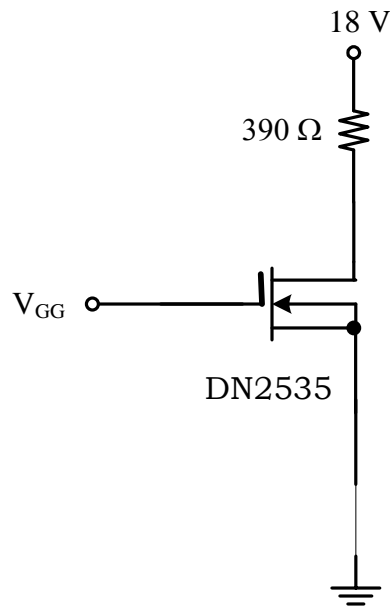

Figure 4
1. Make the connections as shown in Figure 4. Connect the GATE (G) to the negative voltage (V_{GG}) . This negative voltage can be obtained from the Trainer.